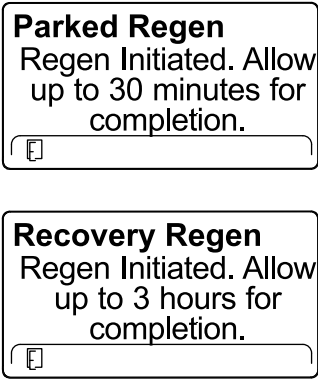

Figure 61
- The InfoCenter displays the time to complete message (Figure 61).